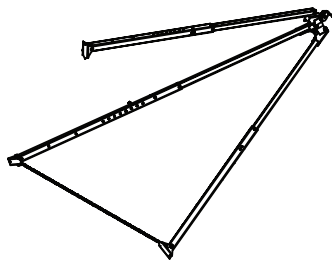

FIG. 5b
5. Remove cable retainer pin[13] from top pulley assembly[14], and route cable[12] over pulley. Extend sufficient cable from winch[8] to reach over pulley through head assembly[15], and 5 ft. through. Re-install cable retainer pin[13] and return tripod to upright position (see fig. 5b, 5c).